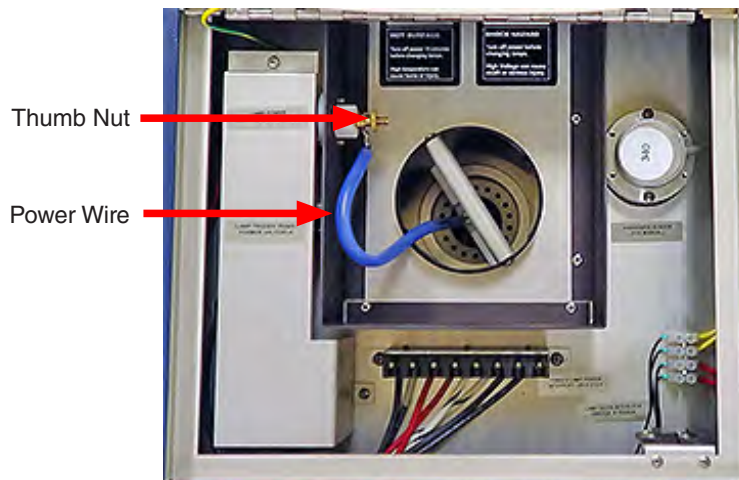

Figure 16.1a: Xe-2 top view with lamp door open.
2. Loosen the lamp power thumb nut (Figure 16.1a).